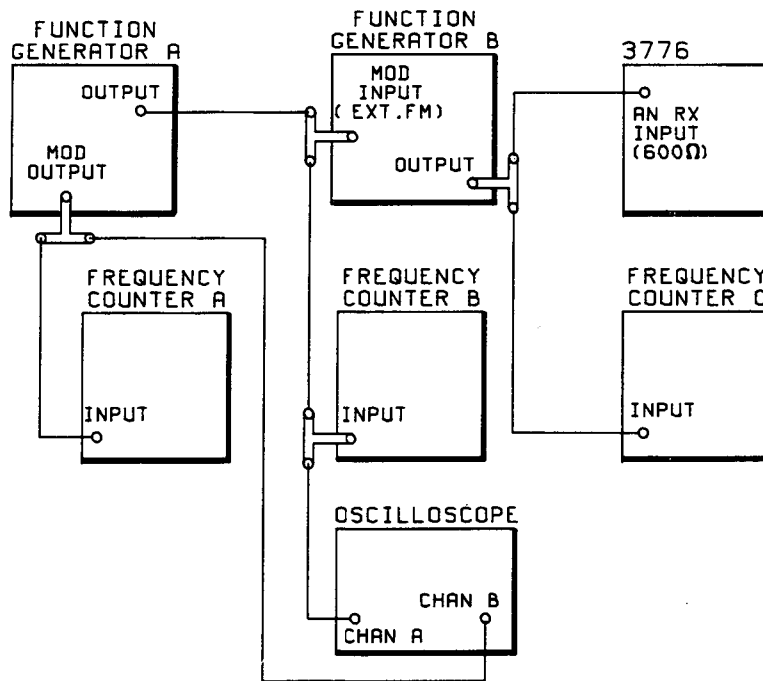

Figure 4-38 Phase Jitter Measurement Averaging Time Test Set-up
37. Connect up the equipment as shown in Figure 4-38.